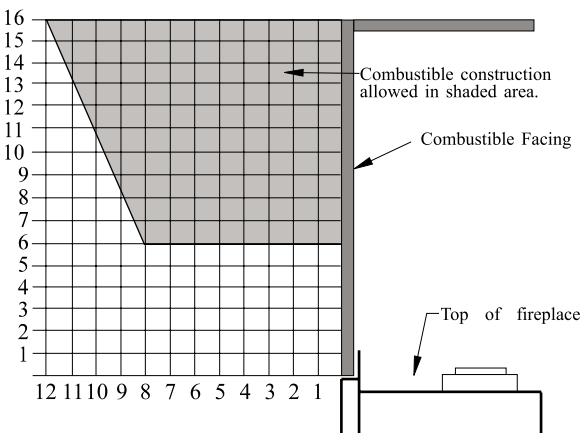

Figure 24a. Combustible mantles and facings for C38DV.
2. Place the Back log onto the back log rest as shown below in figure 24a. The log has lip on the bottom which fits into the slot on the log rest.